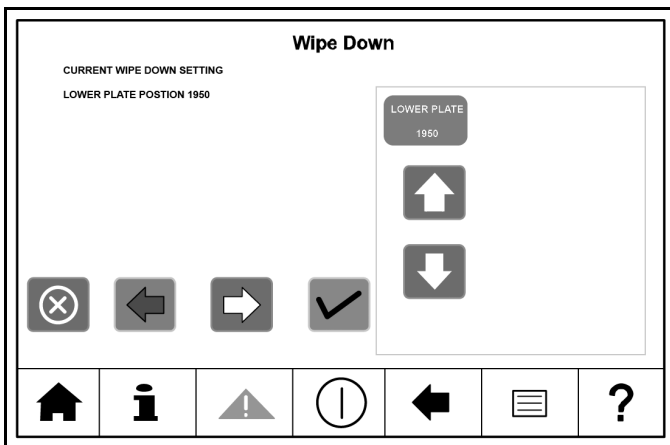

Figure 6-20
2. The following screen will allow you to move the platen up and down. See Figure 6-20